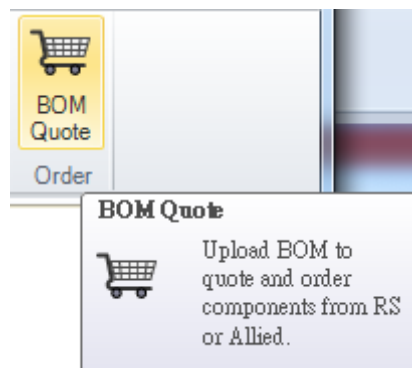

Fig. 1-17 Order
3. Order: You can upload BOM to quote and order necessary components/parts from RS or any other retailer in your country, as per the description in Fig. 1-17.